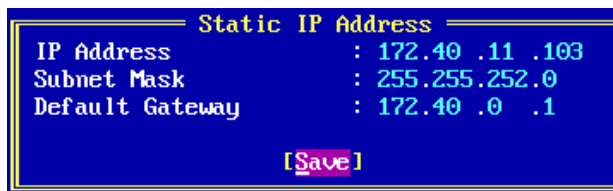

Figure 8-6 Static IP Address Dialog Box
3. Enter the subnet mask. The subnet mask provides a way to segment networks. All hosts (iSCSI initiators or targets) on the same physical network usually have the same subnet mask. For example, Figure 8-6 shows the initiator in the subnet 255.255.xxx.xxx. All the hosts (initiators or targets) in a sub-network will have the same subnet mask.